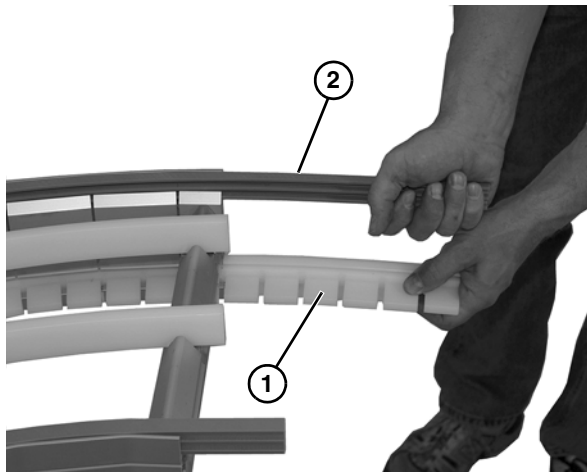

Figure 34
3. Slide lower curve wear strips (**Figure 34, item 1**), and upper wear strips (**Figure 34, item 2**) from curve frame assembly.